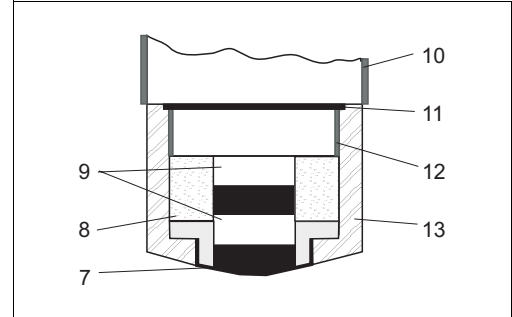
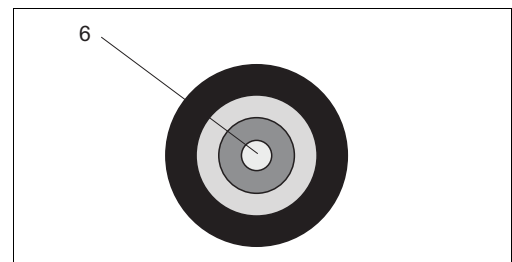

Fig. 12: Sensor head, cutaway drawing
Fig. 13: Sensor head, top view
- Sensor head with cathode and anode (Fig. 12, Fig. 13)
- Membrane cap with electrolyte filling (Fig. 12, pos. 13 and 8)